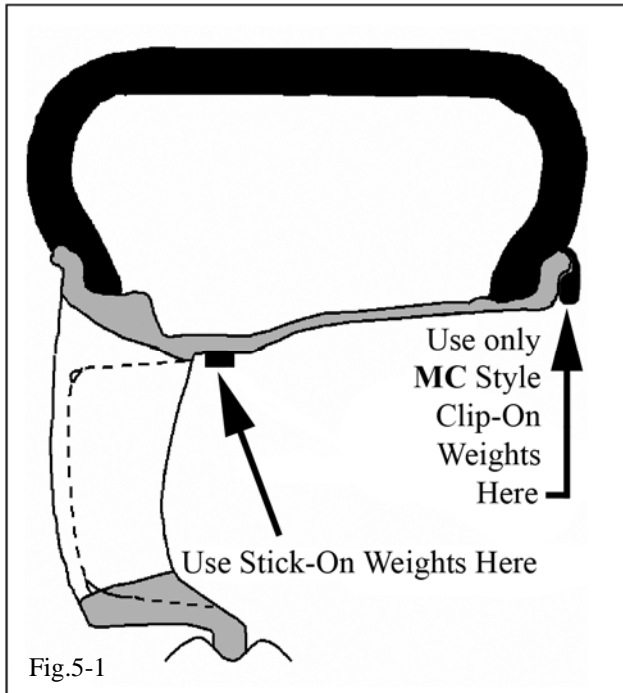

Fig.5-1
- (a) Mount wheel/tire on wheel balance machine and balance in **DYNAMIC MODE**. Enable the **LOAD ROLLER**, if applicable, to ensure proper bead seating. Use stick-on **AND MC style** clip-on type weights. (See Figs. 5-1 & 5-2)